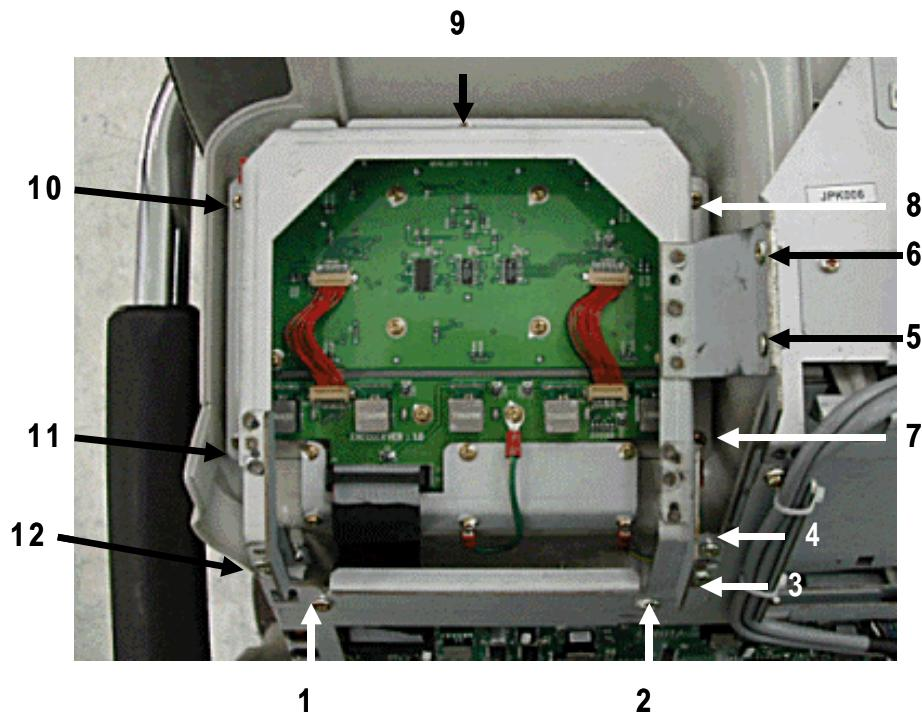

Figure 8-39 Unscrew 12 screws from the Menu key brkt
- Unscrew 12 screws (1-12) from the manu key prefix bracket to remove it. Refer to Figure 8-39.